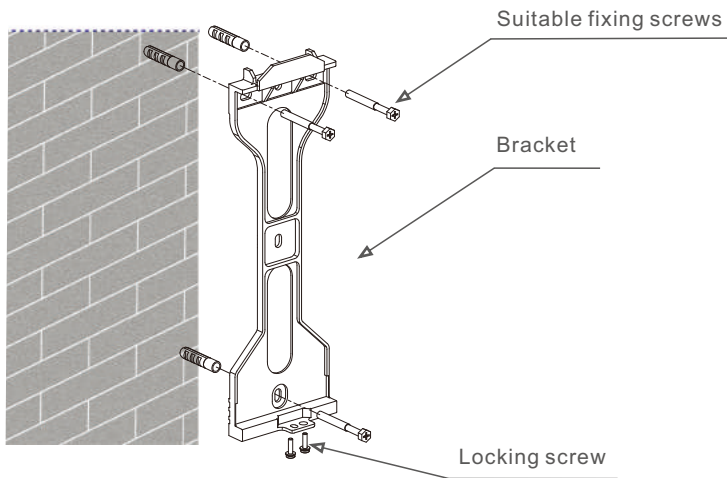
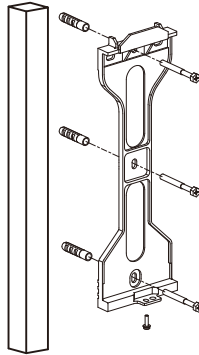

Figure 4.4 Inverter Wall Mounting
Figure 4.5 Inverter Pillar Mounting
Please see Figure 4.4 and Figure 4.5 for instruction on mounting the inverter to a wall. The inverter shall be mounted vertically. The steps to mount the inverter are listed below:
- 2.Ensure the bracket is horizontal and the mounting holes (in Figure 4.4 and Figure 4.5) are marked correctly. Drill the holes into the wall or pillar at your marks.